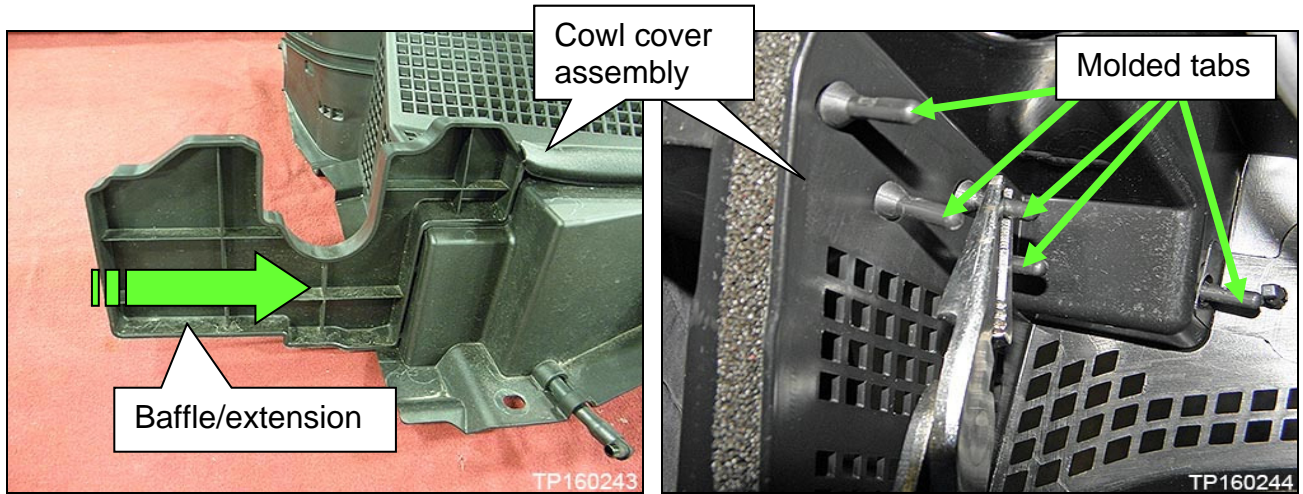

Figure 12
3. Assemble the new cowl cover extension to the new cowl cover assembly, from Part Information, by inserting the molded tabs into the side of the cowl cover assembly (Figure 12).